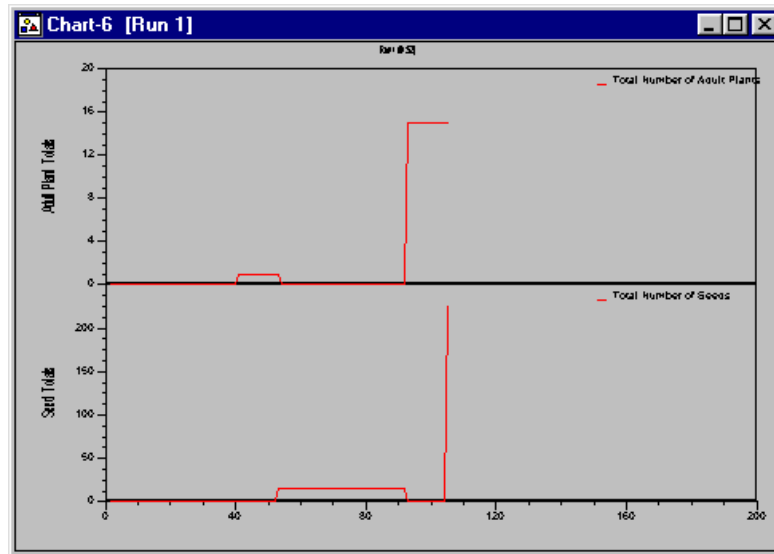

Figure 1.24 Gen-weed Chart Output
12. Select **'OK'** and the chart will now be displayed. It should be similar to figure 1.24 .